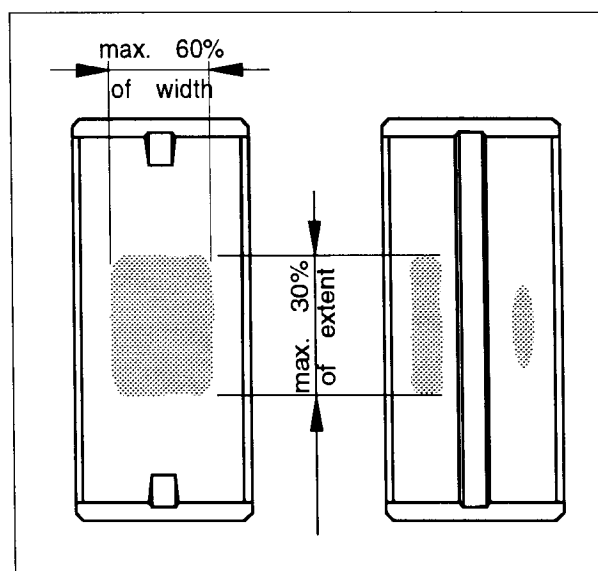

Fig. 15.
**Valuation:** If the limits as shown below in fig. 15 and 16 below are exceeded with totally or partially empty slots, the bearing shells must be exchanged.